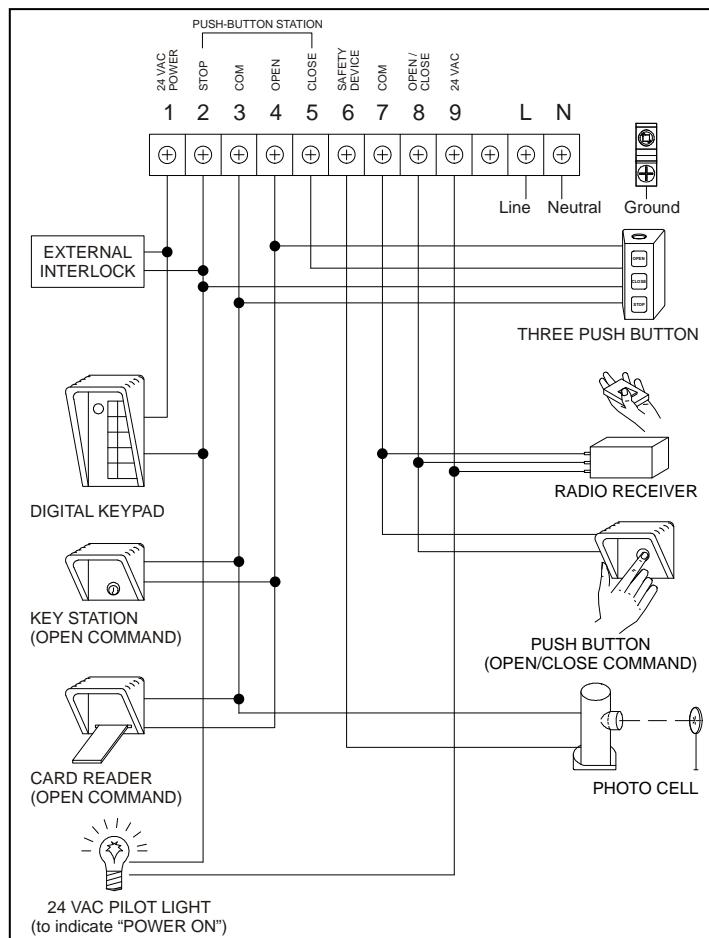

Figure 22 Manaras Terminal Input Connections
* Refer to Figure 22, Manaras Terminal Input Connections.